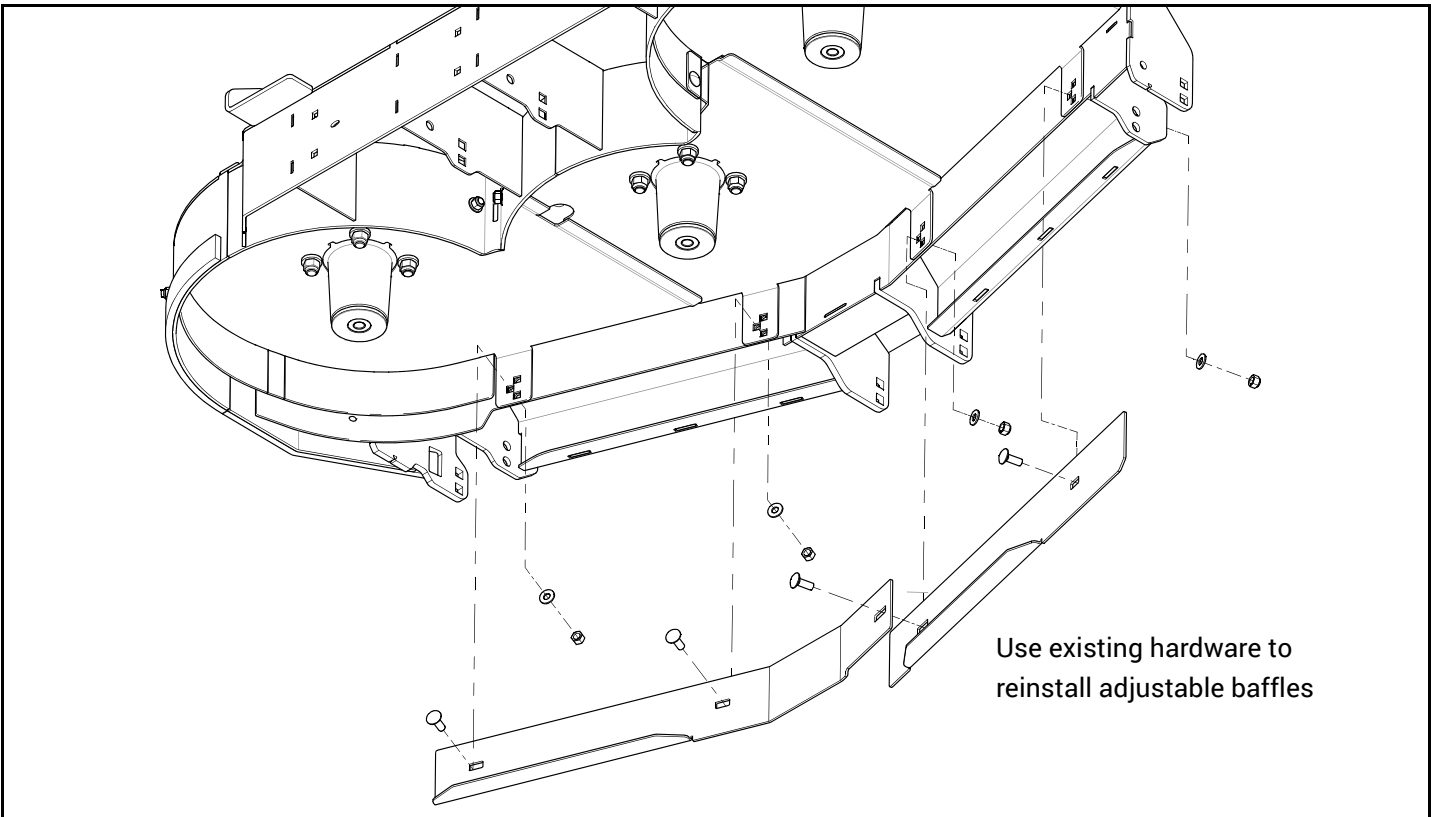

FIG. 9
24. Reinstall the adjustable baffles between the deck and the chamber W/A flanges, in the second highest slot or lower, using the retained hardware. Fig. 9